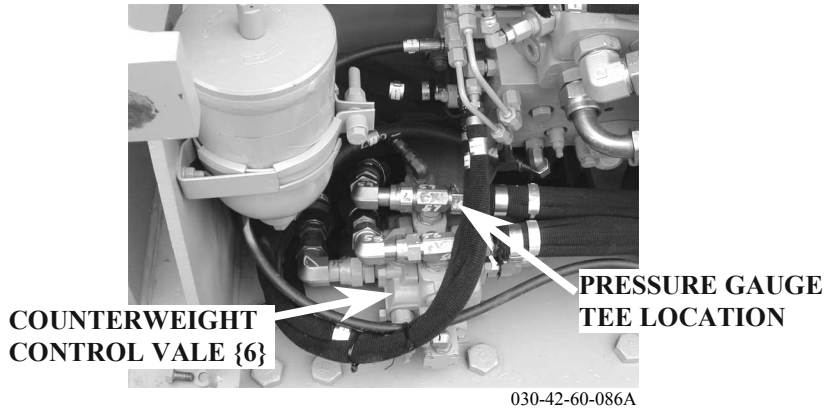

Figure 66: Location of counterweight pressure gauge tee.
5. Using an additional tee fitting, attach a 40 000 kPa (5800 psi) pressure gauge in the line at the tee shown in Figure 66.